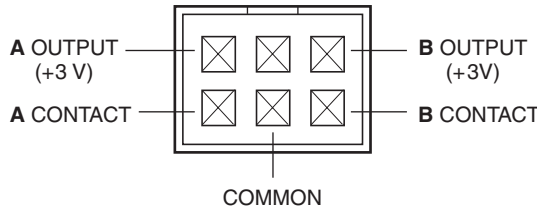

Figure 3: Control connector J3, pin view
1. Use an FCI Berg 65846-015 shell with 47715-000 contacts to make the connection to Connector J3, which provides the contact closure input and detects the output of the position sensor. (See **Figure 3**)
Position feedback is obtained from the A and B outputs shown in **Figure 3**. These are 5 volt tolerant, 3 volt logic outputs, sourcing and sinking a maximum of 20 milliamperes each. An output will go high (+3V) when the valve reaches the respective position.